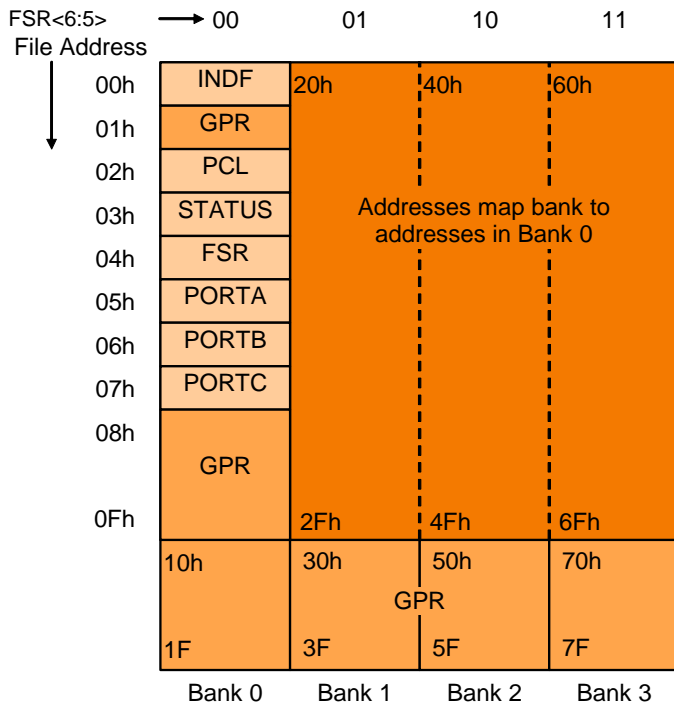
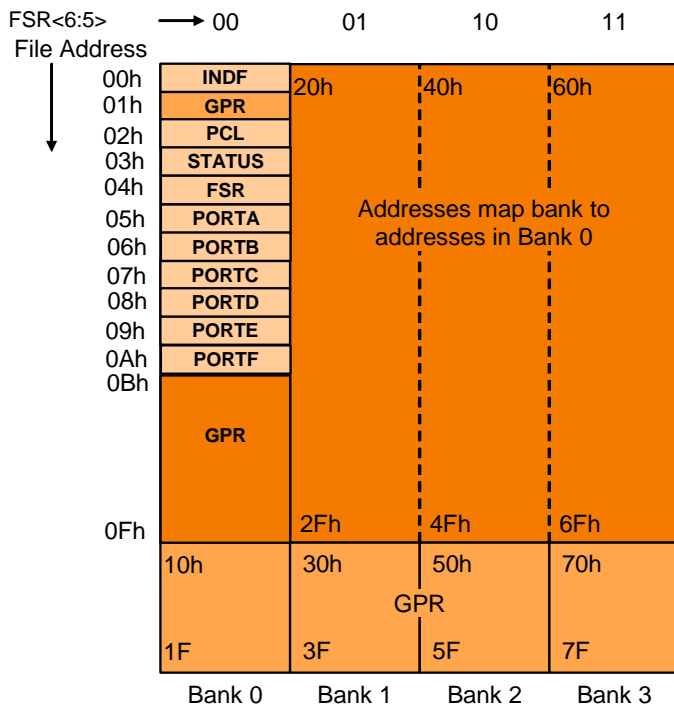

Figure 5. Data memory organization (TSK165A, TSK165B)
Figure 6. Data memory organization (TSK165C)
- In the TSK165A, a 16 byte RAM block is used and the overall Data memory space is comprised of a single bank only (Bank 0). Addressable GPR space is 16 + 9 bytes. The memory space assigned to the SFRs is 7 bytes (see Figure 5)
- In the TSK165B, a 64 byte RAM block is used and the overall Data memory space is comprised of four banks (Bank 0 – Bank 3). Addressable GPR space is 64 + 9 bytes. The memory space assigned to the SFRs is 7 bytes (see Figure 5).
- In the TSK165C, a 64 byte RAM block is used and the overall Data memory space is comprised of four banks (Bank 0 – Bank 3). Addressable GPR space is 64 + 6 bytes. The memory space assigned to the SFRs is 10 bytes (see Figure 6).
As the Data memory space in the TSK165A is not greater than 32 bytes, a banking scheme (selection of banks within the memory organization) is not required and therefore not implemented. In the TSK165B and TSK165C – where the Data memory space is greater – such a banking scheme is implemented through the use of two bank selection bits in the File Select register (FSR). As shown in Figure 5 and Figure 6, these two bits (FSR 6:5) select the banks of memory as follows: